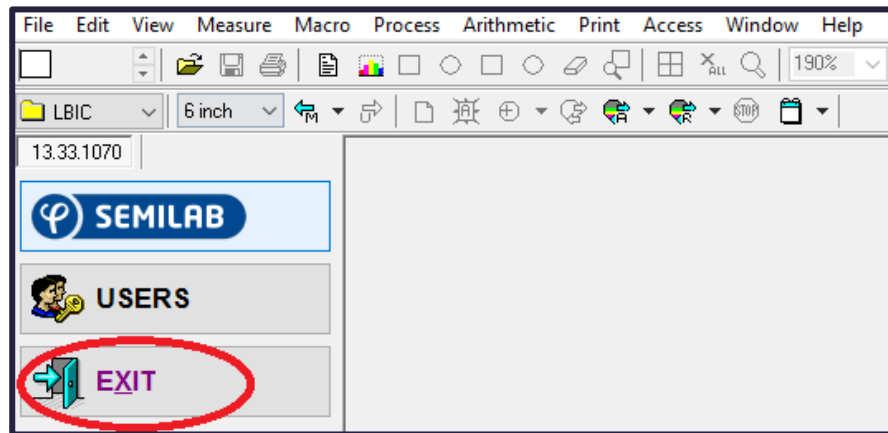

Figure. 25
31. Close the software by clicking “EXIT” menu. (Figure. 25)